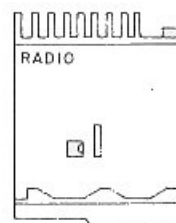
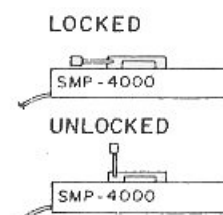

Figure 4a
Figure 4b
2) You can also remove the EEPROM from the radio and place it into the Textool on top of the programmer. Follow these steps: a) remove the EEPROM very carefully from the radio (take notice of location of the notch in its top, as in Figure 4a); b) after making sure that the Textool is in the "unlocked" position (lever up - see Figure 4b), place the